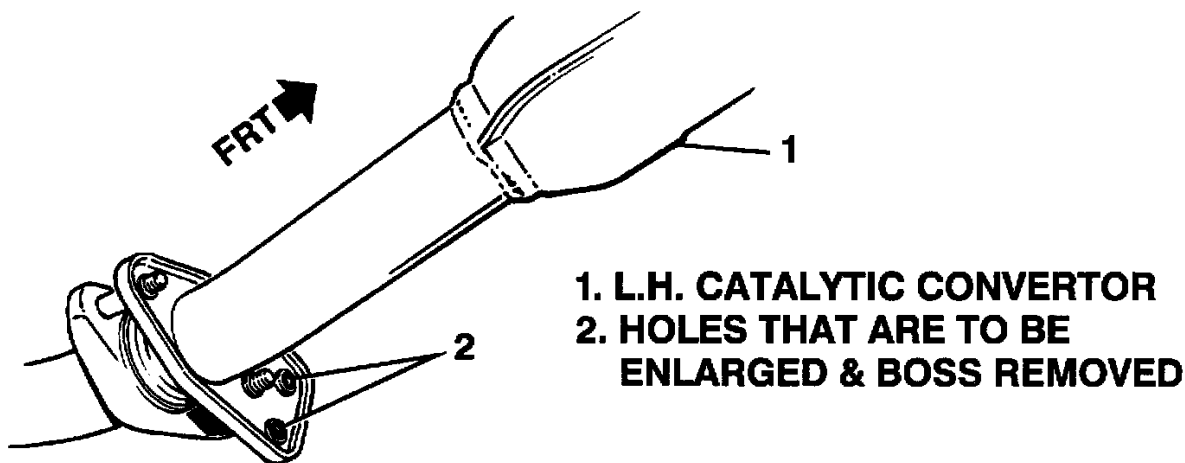

Figure 1
2. Locate and enlarge the two holes of the LH catalytic converter attaching flange shown in Figure 1 utilizing a 25/64" drill bit.
3. Using an air hammer and chisel bit or die grinder, remove remaining raised boss from around holes that were enlarged in step two (2).